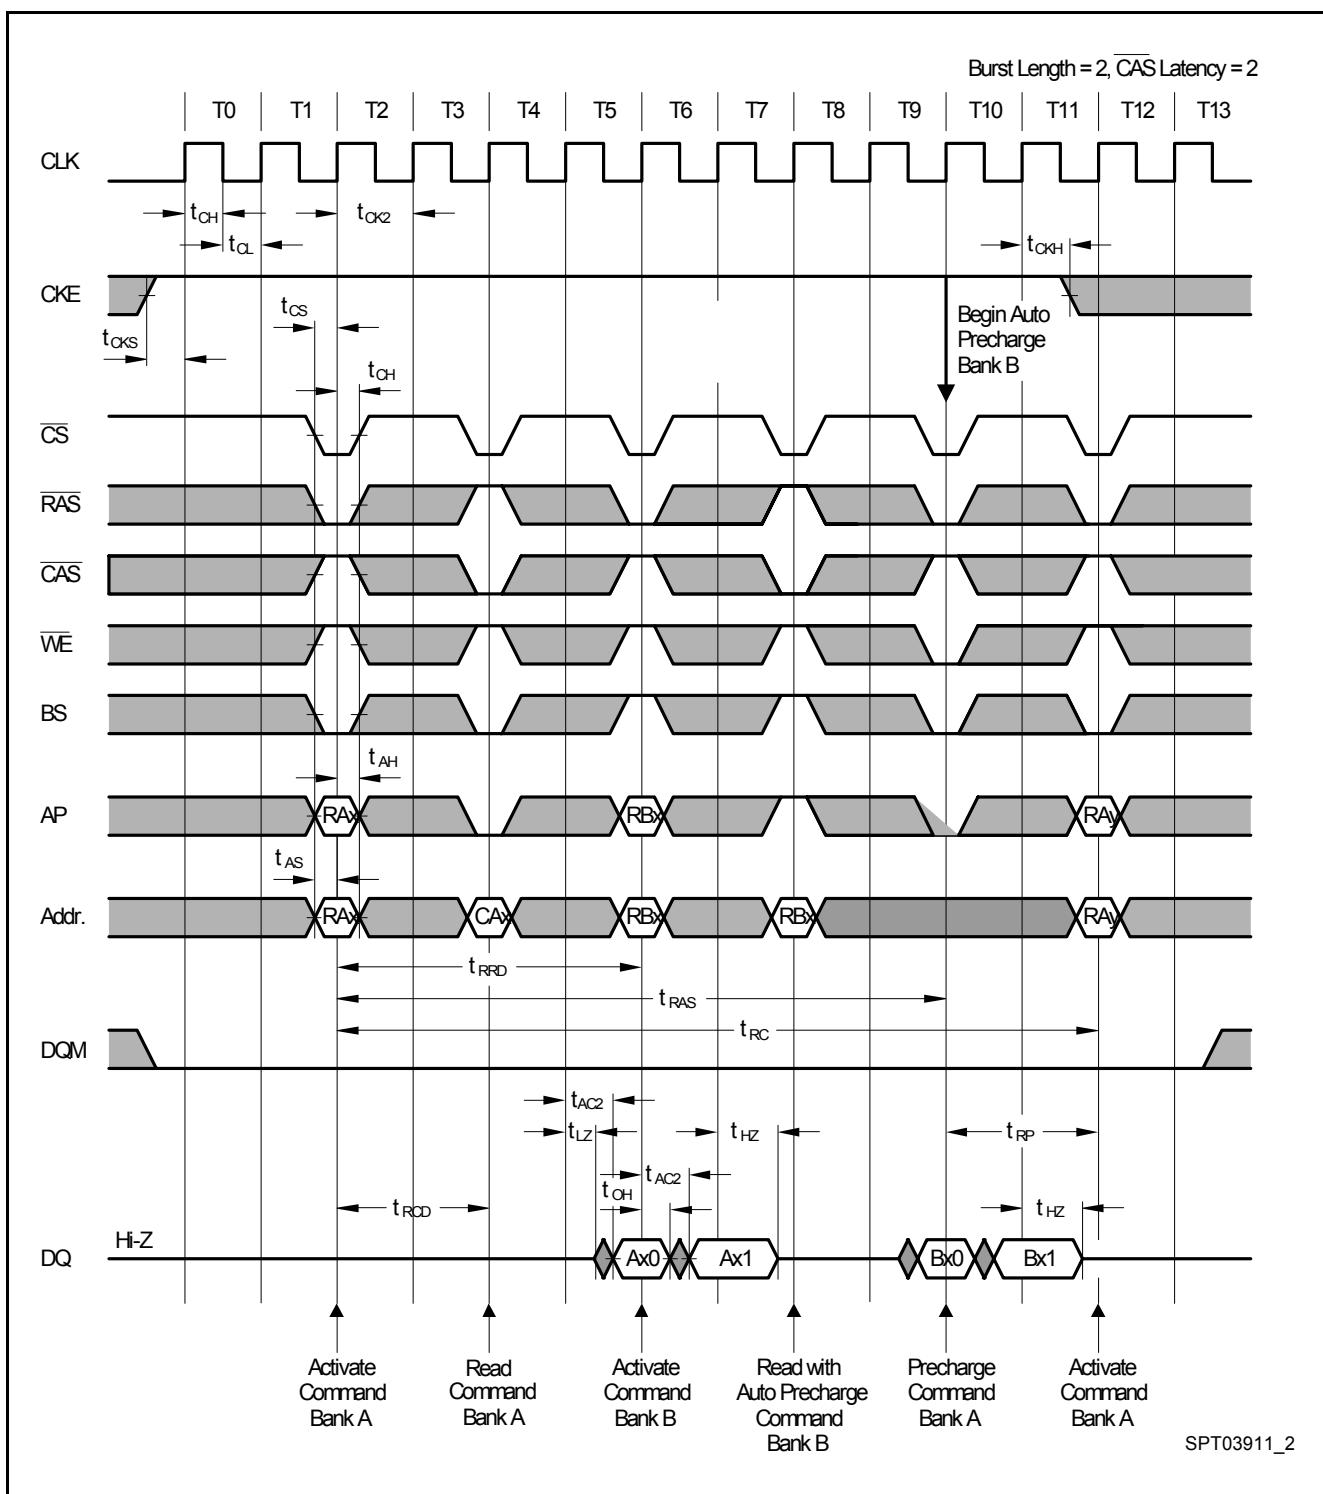

Figure 17 AC Parameters for a Read Timing
- Figure 17 AC Parameters for a Read Timing